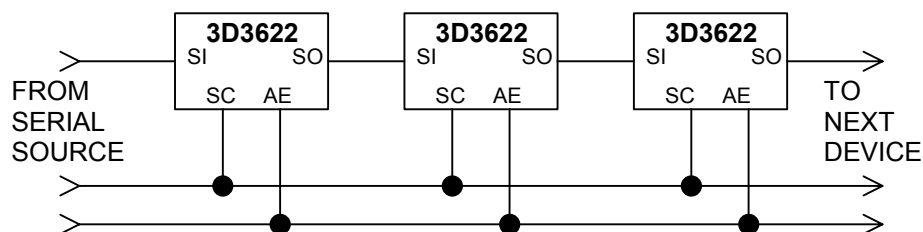

Figure 5: Cascading Multiple Devices
As data is shifted into the serial data input (SI), the previous contents of the 22-bit input register are shifted out of the serial output pin (SO) in MSB-to-LSB order. This allows cascading of multiple devices by connecting SO of the preceding device to SI of the succeeding device, as illustrated in Figure 5. The total number of serial data bits in a cascade configuration must be 22 times the number of units, and each group of 22 bits must be transmitted in MSB-to-LSB order.